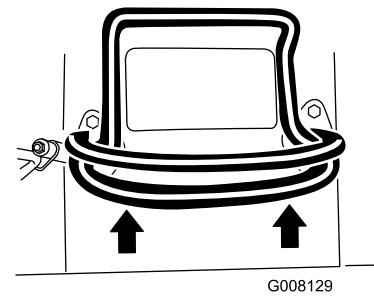

Figure 9
- To move forward, move the traction control forward (Figure 9).